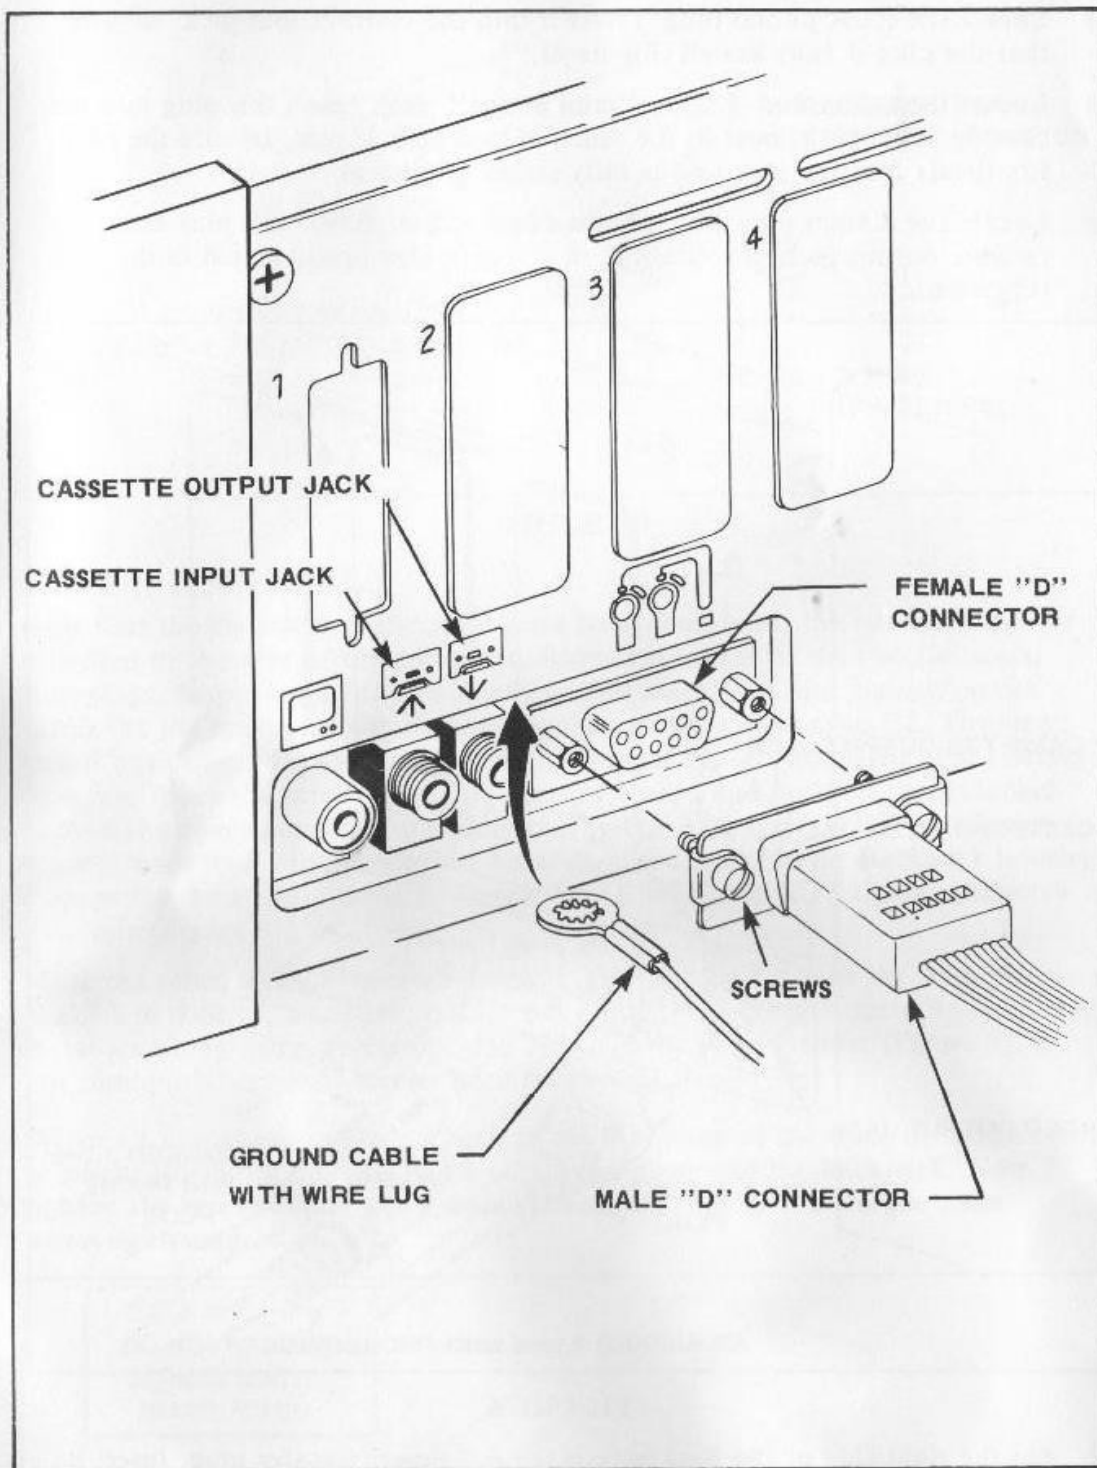

FIGURE 5
- (2) Locate the male "D" connector. Mate this with the 9 pin female "D" type connector on the back of the computer, taking care to align the "D" shells properly. Snug the screws down firmly to seat the two connectors fully. Do not over-torque the screws (Figure 5).
- (3) Locate the green, ground-cable with the wire lug on it. Route this wire into the computer in the opening above the cassette input/output jacks. Be sure this cable stays inside the computer during the remainder of the assembly process (Figure 5).